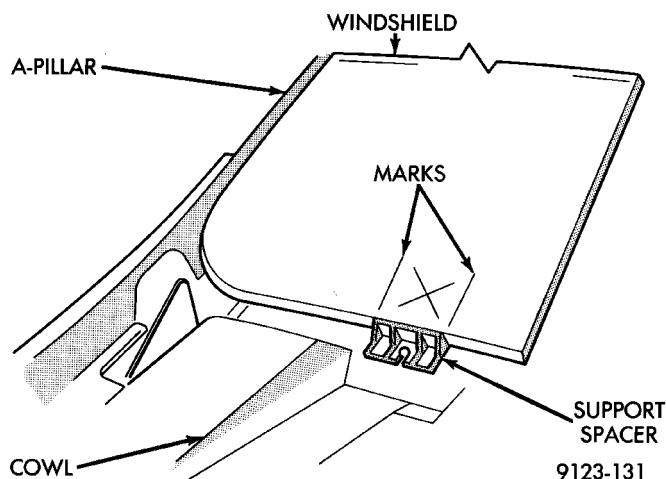
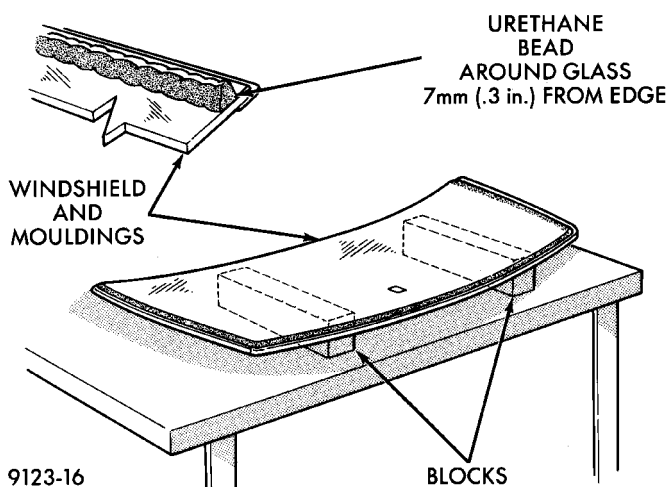

Fig. 3 Center Windshield and Mark at Support Spacers
Fig. 4 Work Surface Set up and Molding Installation
(1) Place replacement windshield into windshield opening and position glass in the center of the opening against the support spacers.
(2) Verify the glass lays evenly against the pinch weld fence at the sides, top and bottom of the replacement windshield. If not, the pinch weld fence must be formed to the shape of the new glass.
(3) Mark the glass at the support spacers with a grease pencil or pieces of masking tape and ink pen to use as a reference for installation (Fig. 3).
(4) Remove replacement windshield from windshield opening.
(5) Position the windshield inside up on a suitable work surface with two padded, wood 10 cm by 10 cm by 50 cm (4 in. by 4 in. by 20 in.) blocks, placed parallel 75 cm (2.5 ft.) apart (Fig. 4).